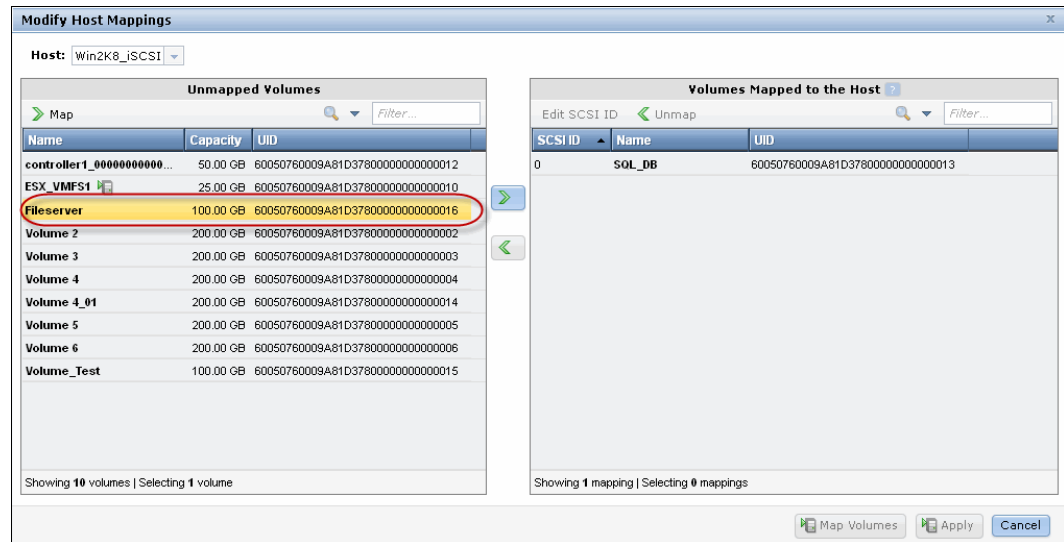

Figure 5-26 Modify host mappings window
3. The Modify Host Mappings window opens. Select the volume that you want to map from the Unmapped Volumes pane on the left, as shown in Figure 5-26.